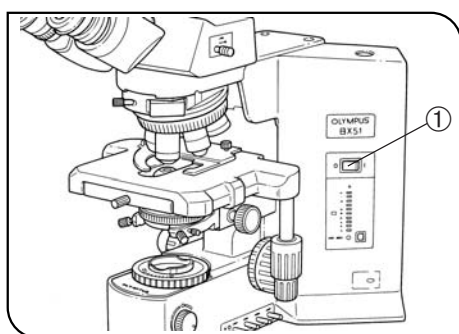

Fig. 1
(Fig. 1)
5. To avoid potential shock hazards and burns when replacing the light bulb, set the main switch ① to "○" (OFF) then disconnect the power cord from the wall outlet in advance. Whenever you replace the bulb during use or right after use, allow the lamp housing, and bulb to cool before touching. (Fig. 1)